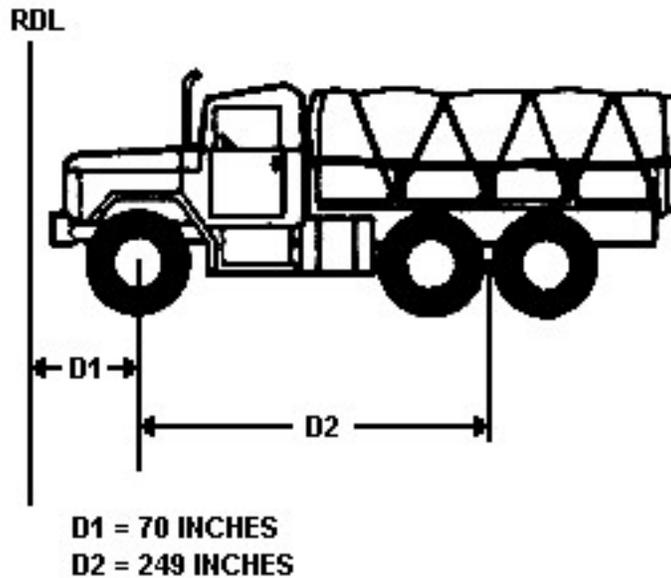

Figure 3-8
4. Determine axle distance for tandem axle vehicles (see Figure 3-8).